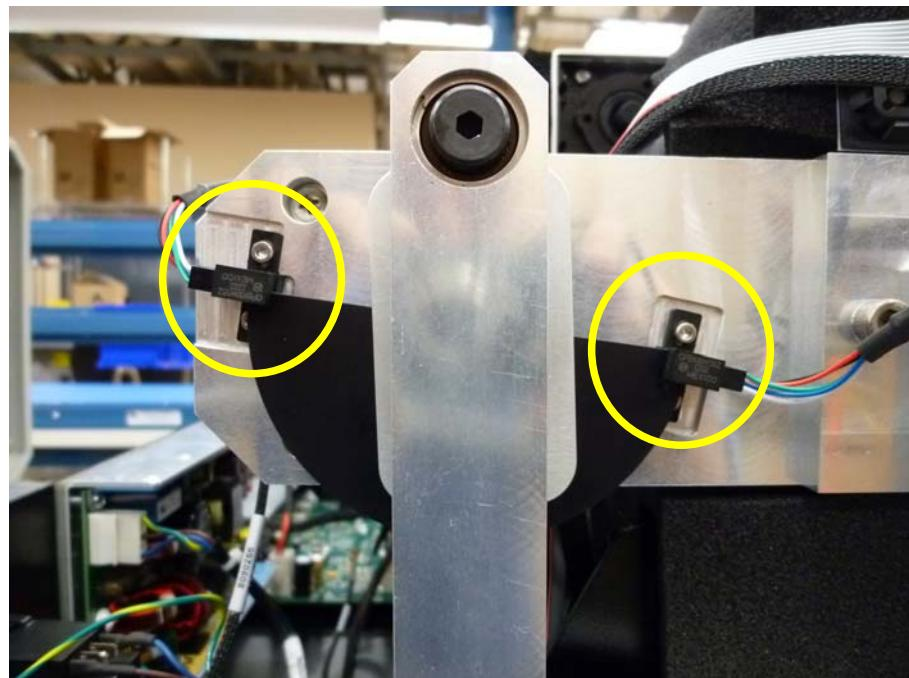

Figure 31
1. At the beginning, racks are maintained at 0 degree. Right Optical Sensor is blocked while left Optical Sensor is unblocked (**Figure 31**).